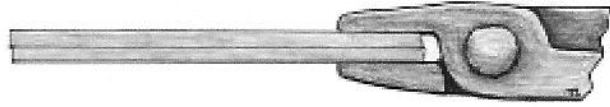

Figure 13: Bars for practice weld—no alignment of scarfs.
-You may want to first practice a more simple weld to get used to the properties of forge welding. The faggot weld is a simple, crude weld which has no end preparation (no scarves.) Try bending a 3/16" x 3/4" piece in half and weld the last 3/4" of the end of the bars together. (Figure 13, drawing). Be extra careful when performing this type of weld, because the larger surface area causes more molten flux and sparks to fly from the joint.